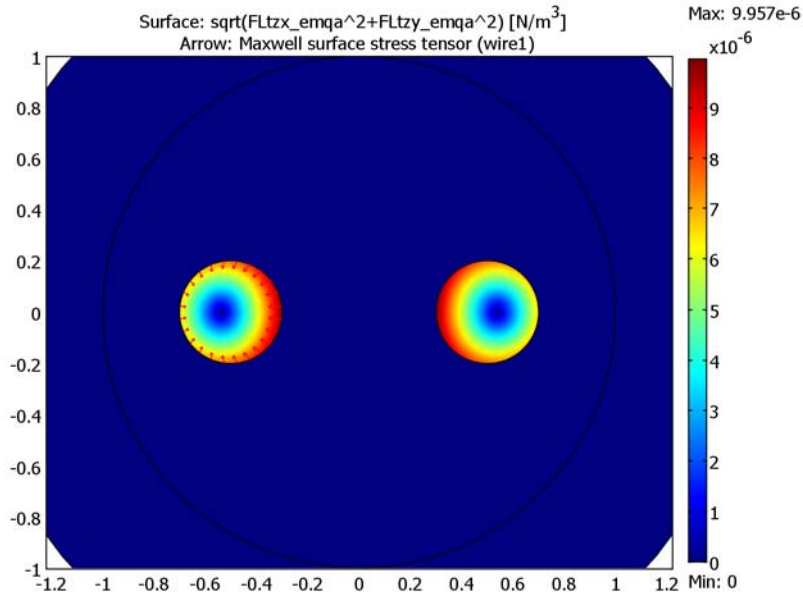

Figure 2-4: Stress tensor and magnetic field.
- 5 Click **OK** to close the dialog box and generate the plot shown in Figure 2-4.